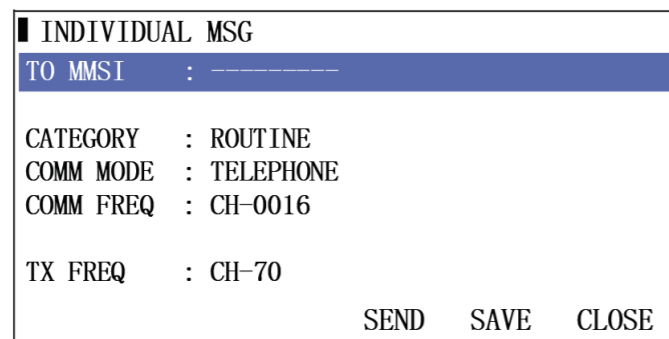

Figure5.1.1
- b: Use the channel knob to select the <INDIVIDUAL MSG> item, and press the [ENT] key to open the editing interface, as shown in Figure 5.1.1.